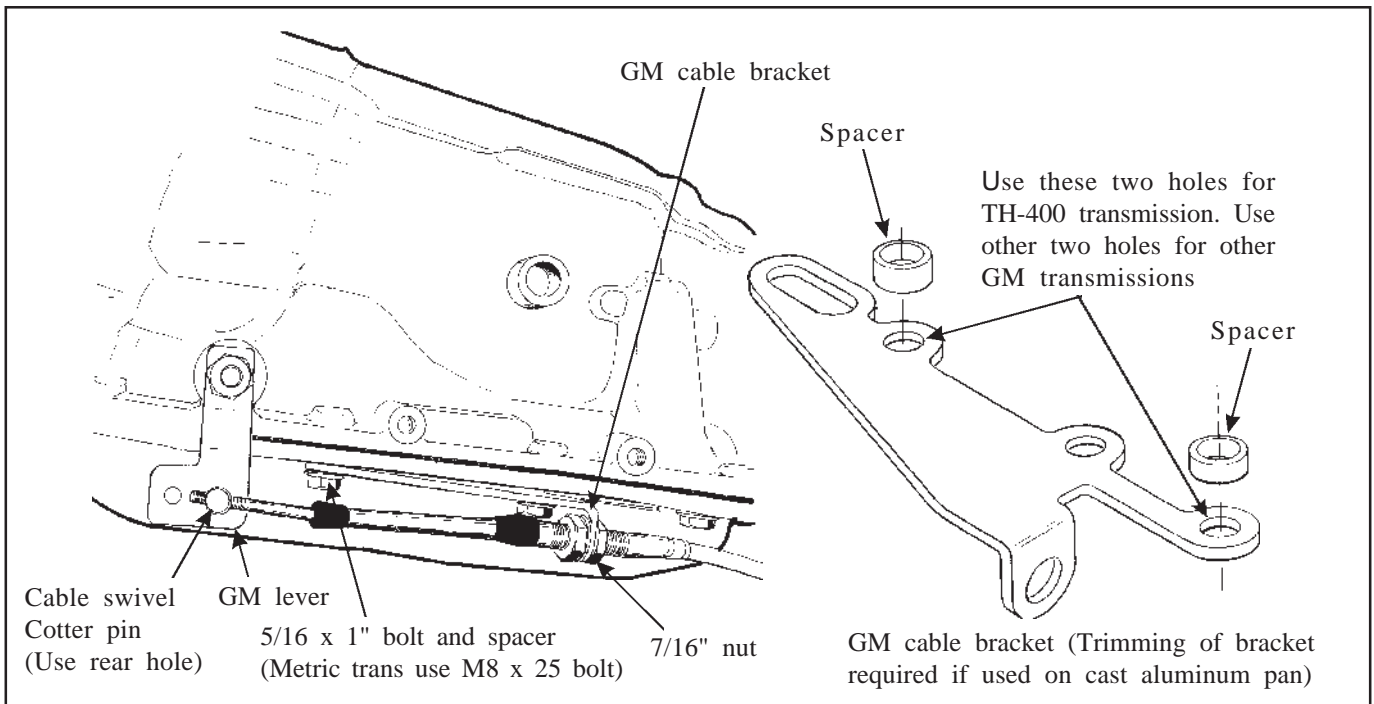

Figure 4
STEP 8. If you have not already done so, remove the stock selector lever nut and selector lever. Discard stock lever and stock shifter linkage. Install **B&M** selector lever in position using stock selector lever nut, see **figure 4**. Torque nut to 23 lb. ft. The lever should move smoothly from front to rear with a positive click in each gear position.
STEP 9. Remove two transmission oil pan bolts from the middle of the left side of the oil pan. Install cable bracket in position, see **figure 4**.) The bracket must be installed with two spacers between the pan and bracket. (If your transmission is equipped with a cast aluminum oil pan, these spacers should be omitted however the cable bracket may have to be modified.) Install the two 5/16-18 x 1.00" bolts supplied and tighten 12-13 lb-ft. Do not over-tighten as this can damage pan gasket.